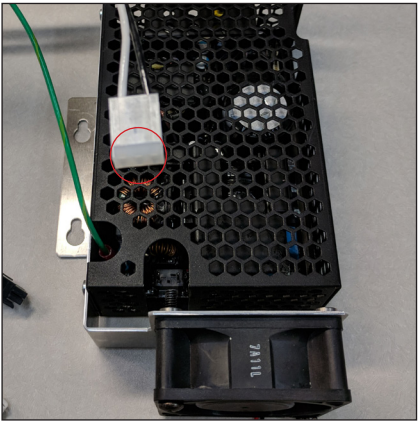

Figure 55: Tab Orientation
**Note:** Take note of the tab orientation on the connector. The tab should be oriented toward the bottom of the power supply (when viewed from the front) during installation. Refer to **Figure 55**.